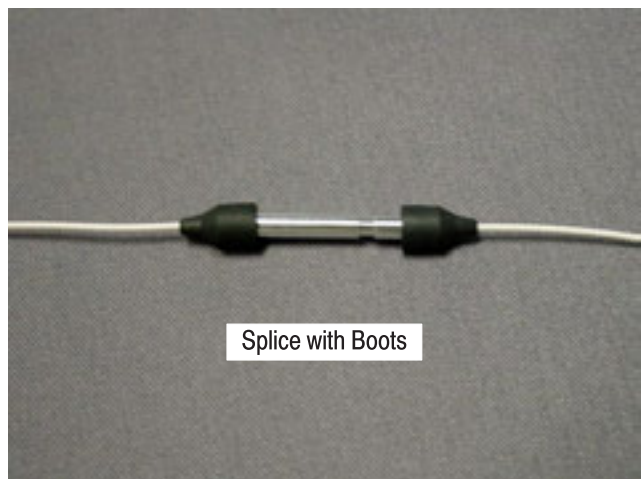

Figure 26
14. The 900- μ m buffered fiber termination is now complete. See Figures 26 and 27.